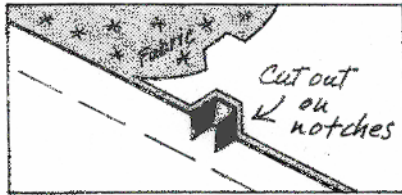

Figure 13
- Cut notches out. (Figure 13)